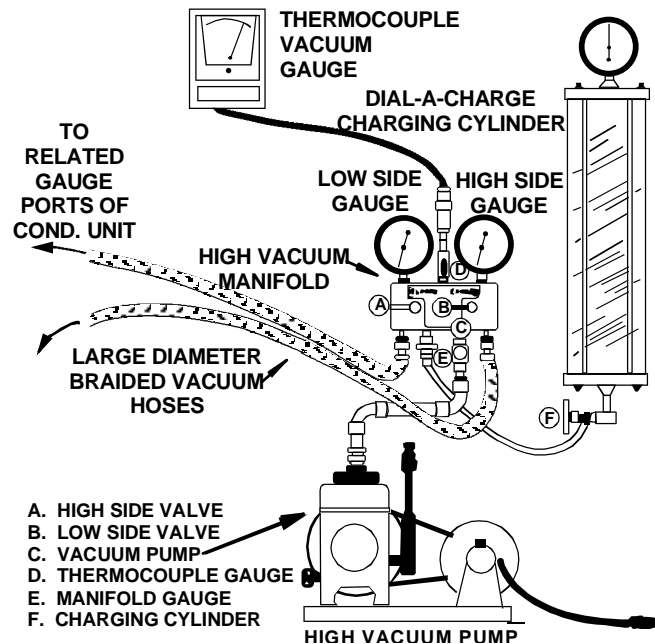

Figure 2
1. Connect the vacuum pump, high vacuum manifold set, thermocouple vacuum gauge and charging cylinder as shown in Figure 2. Be sure all valves are fully closed.
2. Confirm proper pump and gauge operation. Open the shutoff valve leading to the vacuum pump (C). Start the pump. When the gauge manifold (low side) reading drops to about 29 inches of vacuum, open the valve to the thermocouple vacuum gauge (D). Continue evacuation until the gauge reads 250 microns or less.